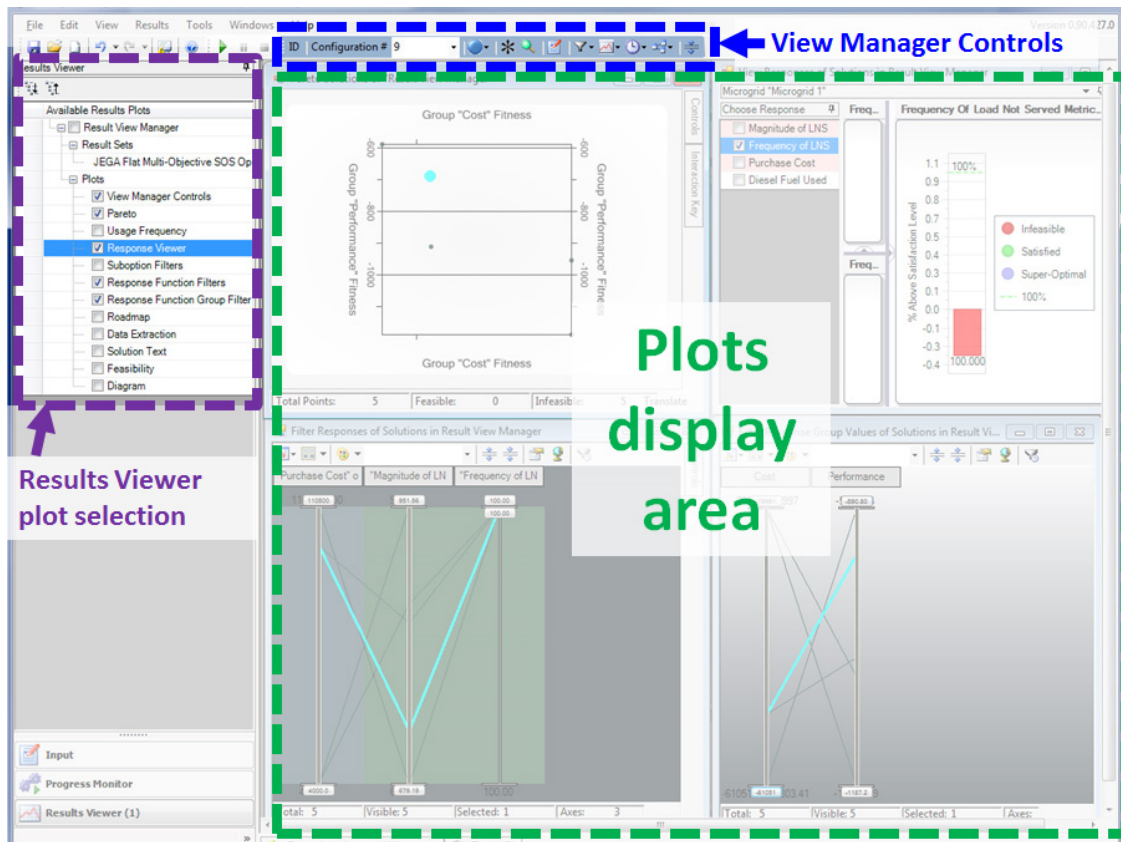

Figure 67. Results Viewer page overview.
- **Plot selection** menu (highlighted in purple in Figure 67) allows you to select which plots to display.
- **View Manager Controls** (highlighted in blue in Figure 67) toolbar allows you to see the currently selected configuration and filters being applied to the plots. This toolbar can be displayed/hidden via the plot selection menu. This is not applicable for MSC analyses.
- **Plots display area** (highlighted in green Figure 67) can display multiple plots at once. Plot windows can be resized and moved.
All of the plots are interactive and are linked. Selecting a configuration or filtering on one plot will cause the same configuration and filters to apply to all other plots. Since multiple plots can be open at the same time, this feature becomes useful in ensuring all plots are displaying information about the same data set. In Figure 67, you will see a bright blue dot or line in three of the plots, which represent the same configuration.